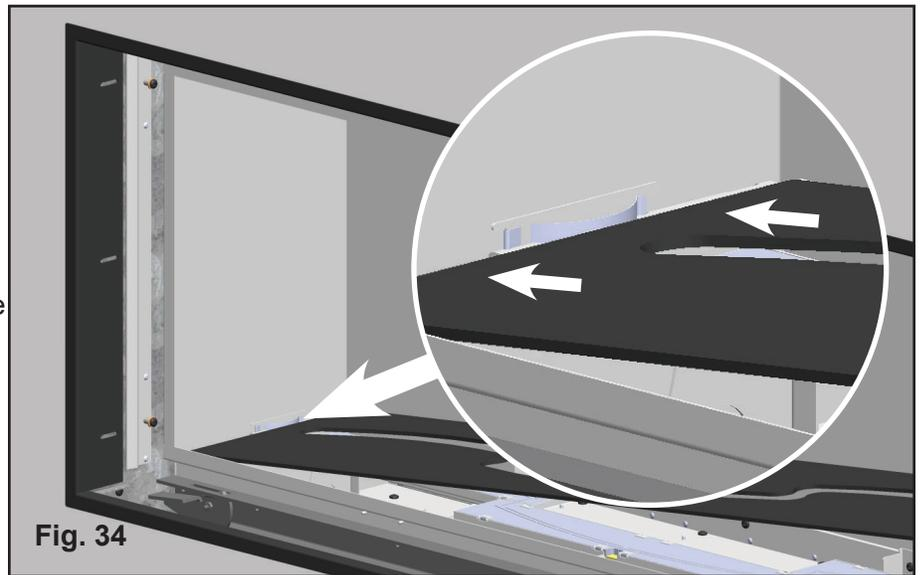

Fig. 34
2. Position the floor glass into the firebox at an angle, shiny side up, with the center burner curve in front. Slide one end tight against the tension spring. (Fig. 34)